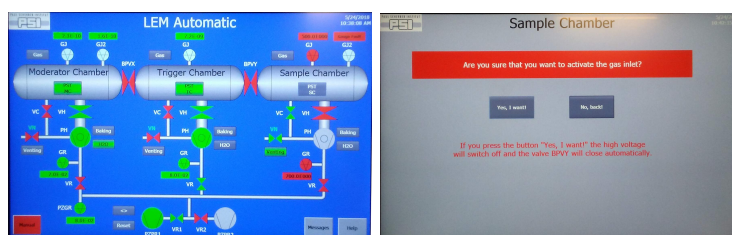

Figure 3.10: Main screen (left) and sample chamber (right) of the vacuum control touch screen.
5. At the main “LEM Automatic” screen of the vacuum control touch screen (Fig. 3.10), press on the “Gas” button (near “Sample Chamber”). This will get you to the “Sample Chamber” control screen, press on “No, back!” which closes the SC vent valve and takes you back to the main screen.